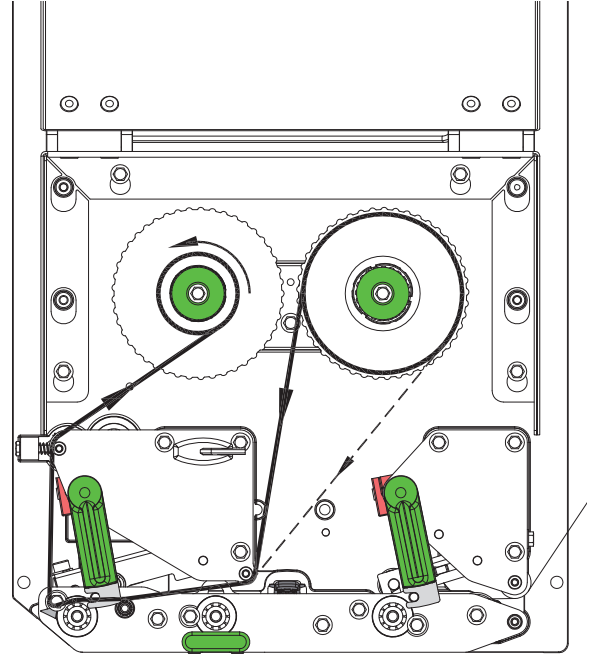

Fig. 12 Transfer ribbon feed path
2. Turn lever (6) counterclockwise to open the printhead.
3. Slide transfer ribbon roll (3) onto the ribbon supply hub (4) until it stops and so that the color coating of the ribbon faces away from the printhead after loading.
4. Hold ribbon supply hub (4) firmly and turn knob (5) counterclockwise until the transfer ribbon roll is secured.
5. Slide suitable ribbon core (1) onto the transfer ribbon take-up hub (2) and secure it in the same way.
6. Guide transfer ribbon through the print unit as shown in the figure 12.
7. Secure starting end of transfer ribbon to the transfer ribbon core (1) with adhesive tape. Ensure counterclockwise rotation direction of the transfer ribbon take-up hub here.
8. Turn transfer ribbon take-up hub (2) counterclockwise to smooth out the feed path of the transfer ribbon.
9. Turn lever (6) clockwise to close the printhead.